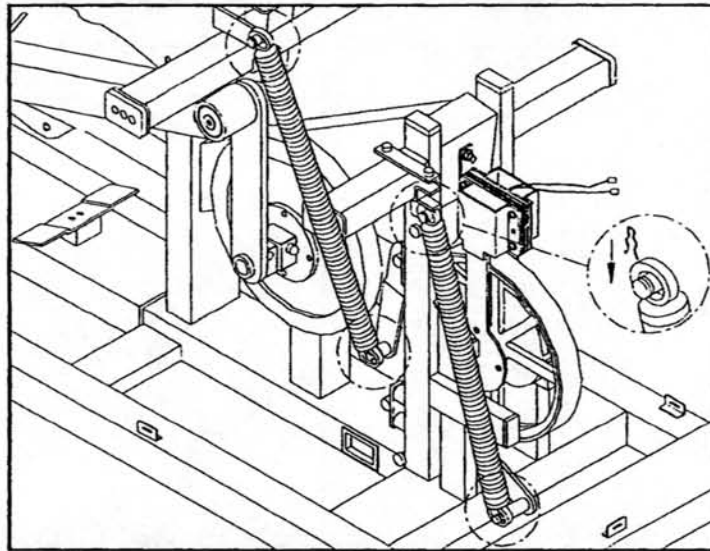

Fig.15-4
2. Lock them by inserting the PINS (see fig.15-4).